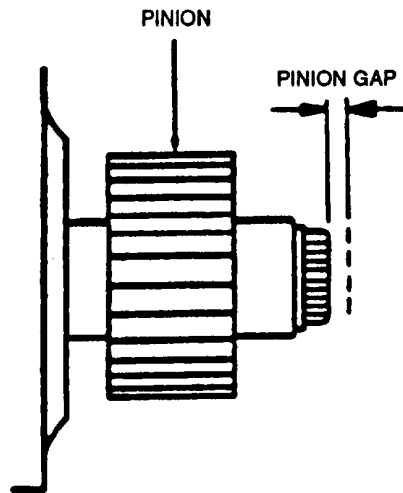

FIGURE 3-26. Checking Pinion Gap
- n. Install solenoid (1) and secure with screws (2).
- (1) Connect a 24 VDC power source positive lead to terminal 'S' on solenoid and negative lead to starter frame.
- (2) Apply power to solenoid and pinion gear will shift.
- (3) Disconnect terminal 'M' wire to stop pinion from rotating.
- (4) Gently push pinion shaft towards solenoid and measure amount of travel, refer to FIGURE 3-26. Pinion gap should be 0.0118 to 0.787 in. (0.3 to 2.0 mm).
- (5) Adjust gap by increasing or decreasing number of fiber washers between solenoid and front bracket. Increasing number of washers decreases gap and decreasing number of washers increase gap.